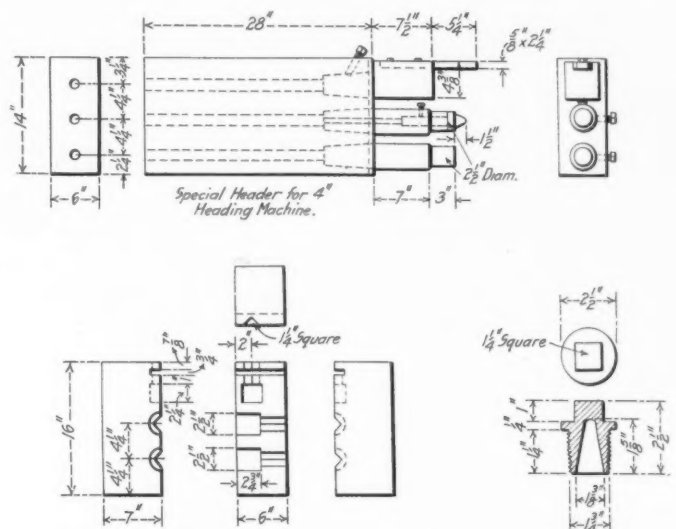

Fig. 2—Forging Machine Dies for Making Grease Plugs; Boston & Albany.
G. Creedon (B. & A., West Springfield, Mass.):—Dies used on a 4-in. forging machine for making grease plugs for side rods are shown in Fig. 2. The plugs are made from 1¼-in.